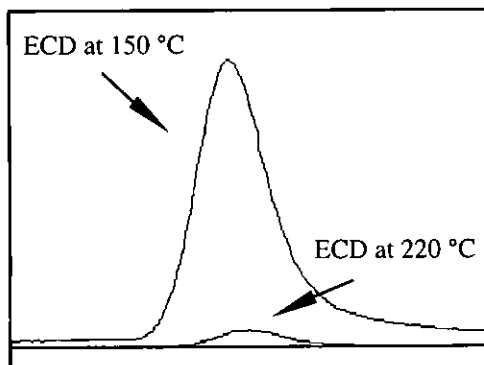

Figure 2. Response for Butanedione versus ECD Temperature.
However, the diones give a strong signal with ECD detection, this signal is temperature-dependent with significantly more sensitivity at a detector temperature of 150 °C than at 220 °C (Figure 2). Therefore, the system was configured so that both ECD and ion trap detection could be used.
- Two pieces of 35 cm 0.25 mm deactivated fused silica tubing were used to connect the valve to the ECD and to the ion trap. An auxiliary column (0.25 mm) was also required (see Figure 2).